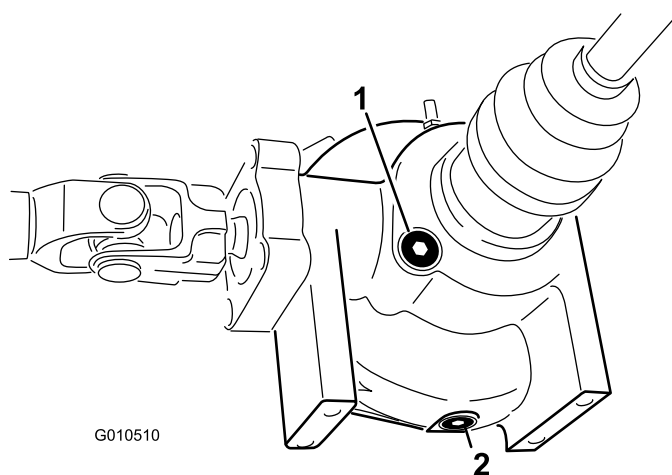

Figure 46
2. Clean the area around the drain plug on the side of the differential (Figure 46). Place a drain pan under the drain plug.